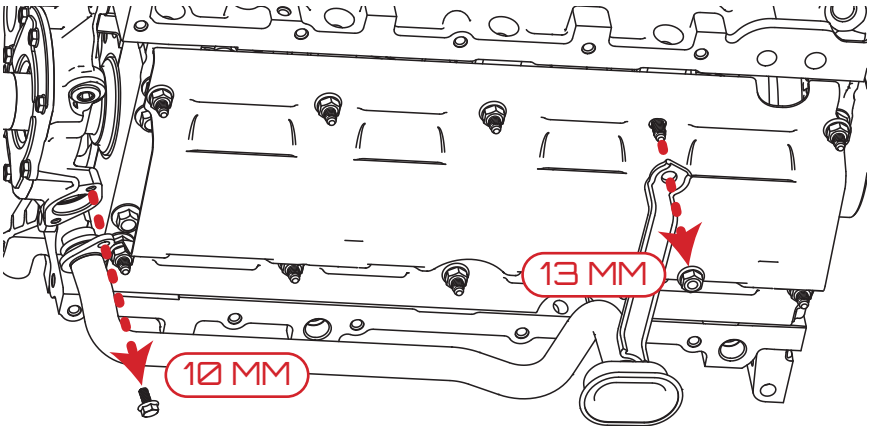

Figure 2 - Removing the Factory Oil Pickup Tube (Screen)
8. Remove the factory oil pickup tube (screen) from the oil pump and main stud by using a 10 mm and 13 mm tool, shown in Figure 2. Set the pickup tube (screen) aside until reinstallation.